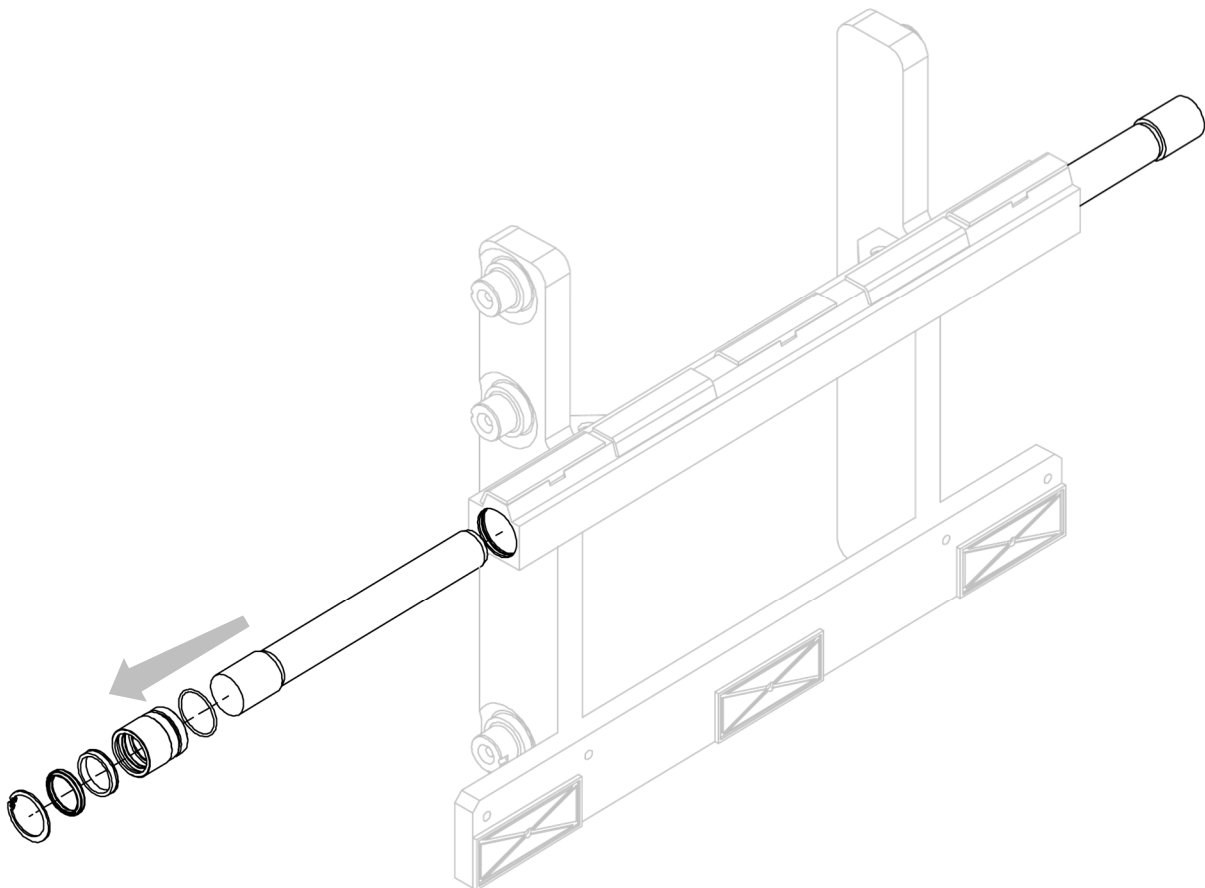

Figure 33
7. For reference, see *Figure 33*.